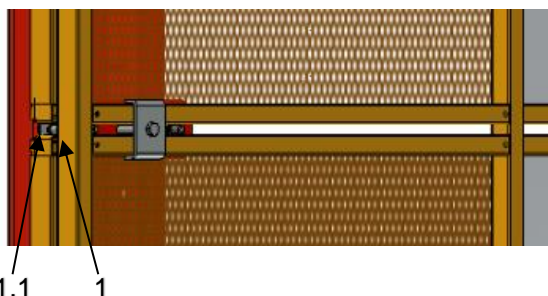

Fig. 6: Position of Guiding Pin for Telescopic Screen DX LPS 123 x 248.
1. Undo Nut (1.1) and remove washer from the guide pin (1).
2. Place guide pin LPS (1) in between of the screen element and on the inner edge in the upper guide slot of the telescopic screen. For this, see the chapter structure for the correct position of the guide pins. (Fig. 6 & 7)